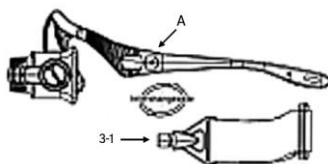

Fig. 3
1. Press the release point (A) on the interior of the arm (Fig. 3).